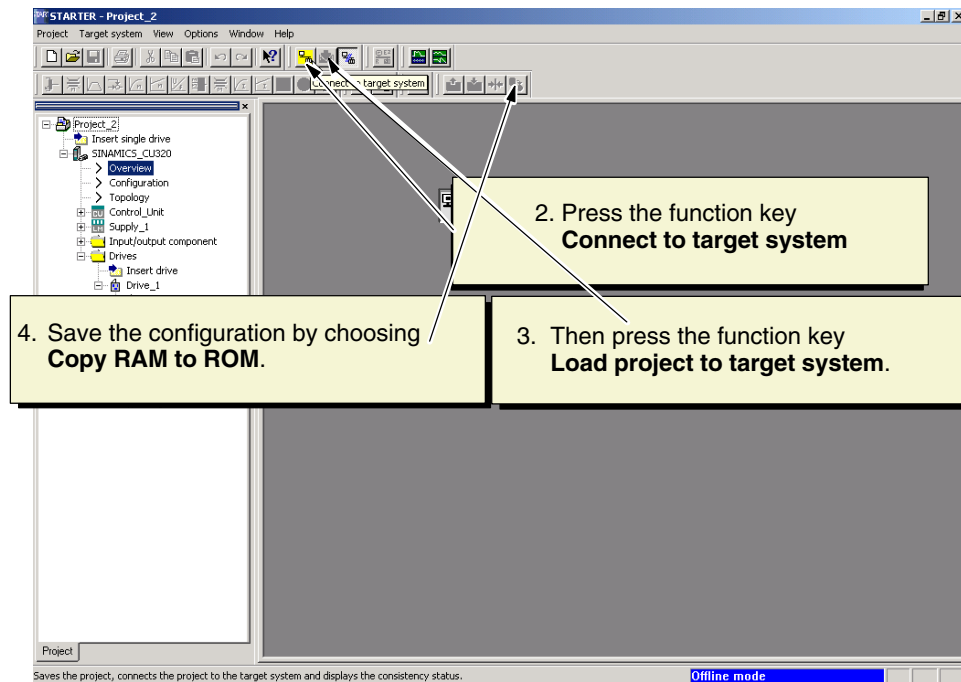

Fig. 4-1 Project navigator with SINAMICS_CU320
2. To use the “control panel” function, you have to switch to ONLINE mode. To switch to ONLINE mode, press the function key **Connect to target system** (as shown in Fig. 4-1).